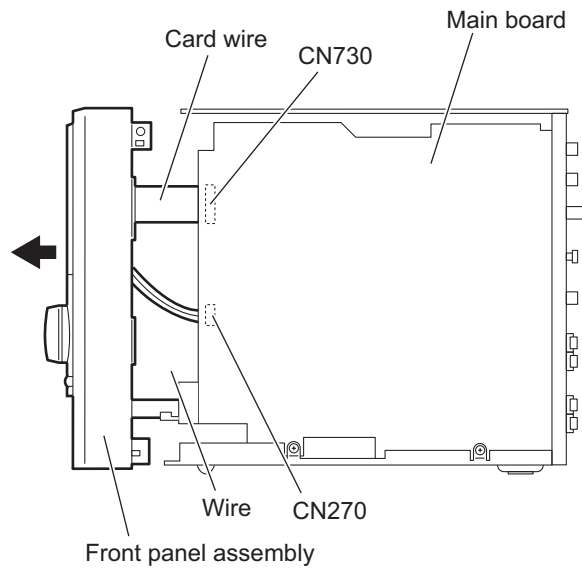

Fig.8
- (5) From the right side of the main body, disconnect the card wire from the connector **CN730** on the main board. (See Fig.8.)
- (6) Disconnect the wire from the connector **CN270** on the main board. (See Fig.8.)
- (7) Remove the front panel assembly in the direction of the arrow. (See Fig.8.)